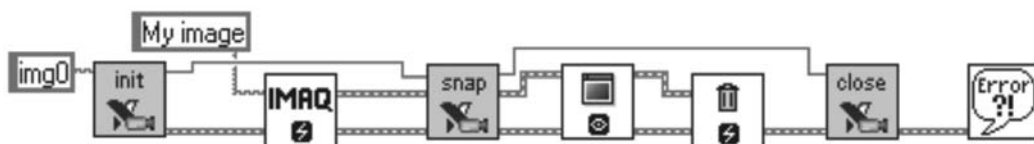

Figure P12.1 Block diagram.
**Solution** The block diagram to acquire a single image into memory buffer using IMAQ snap is shown in Figure P12.1.